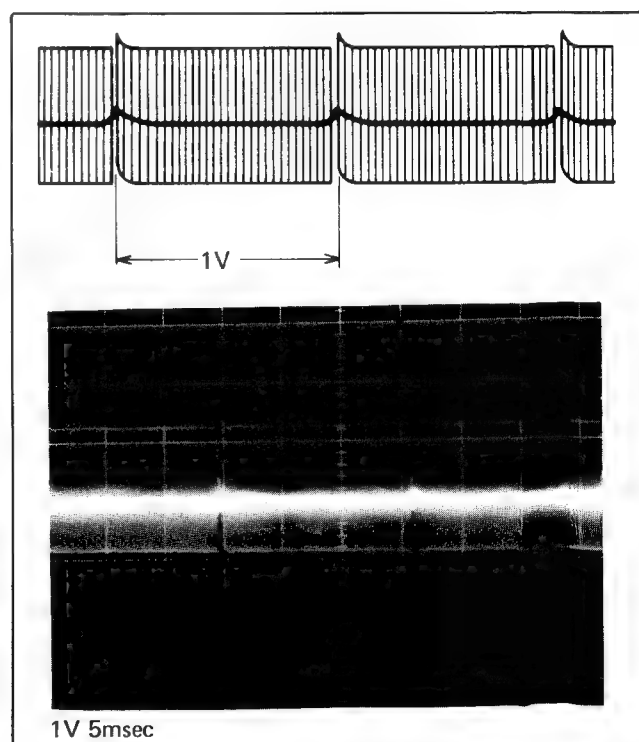

Fig. 2
- d. Now, observe the signal at the vertical rate at test point TP607, and adjust the vertical parabola control VR613 and the vertical sawtooth control VR614 so that the signal waveform is flattest during the vertical period as shown in Fig. 2. Trigger the oscilloscope with test point TP609.